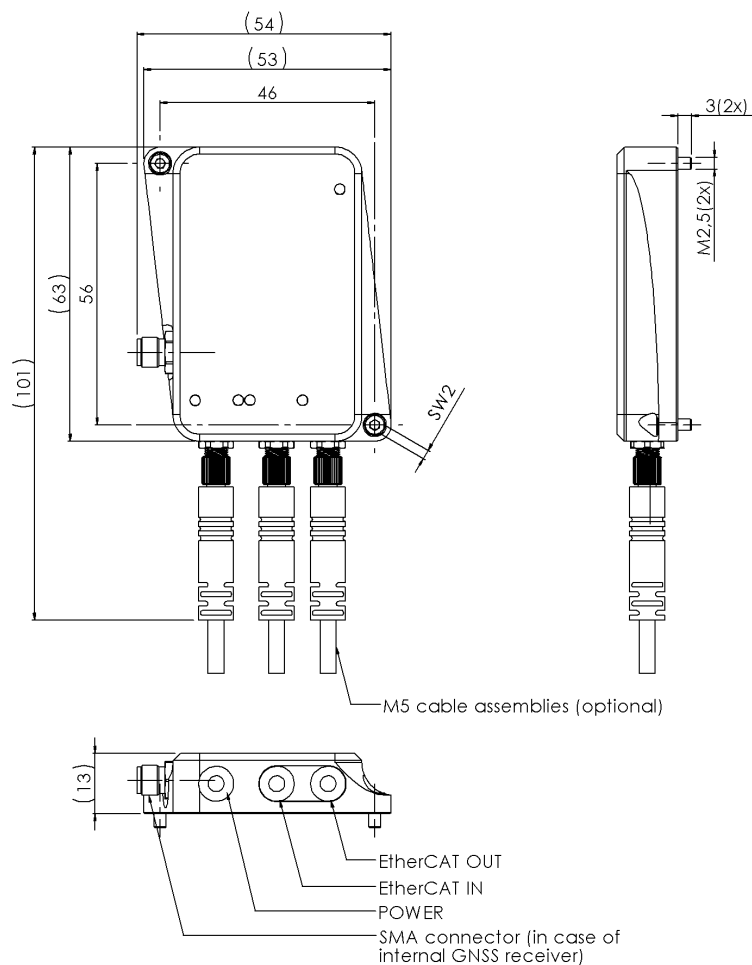

Figure 7: ONE-SERIES HSD drawing
The housed variant of the ONE-SERIES is supplied with two hexagon head bolts DIN 916 A2 M2.5x5 (Allen key 2) which need to be used to fix the sensor to another system or device. The dimensions and location of the mounting holes can be found in Figure 7.